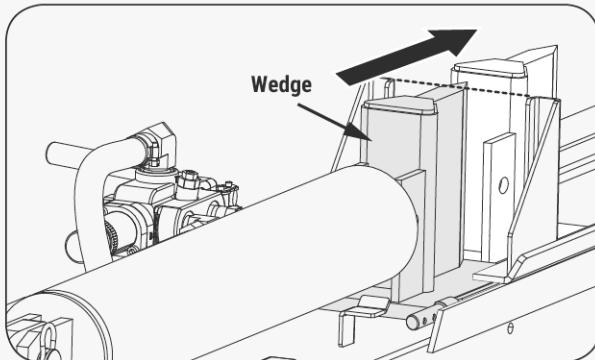

Figure 12b
2. Push the wedge forward until the wedge completely crosses the log stripper. (See **Figure 12b.**)